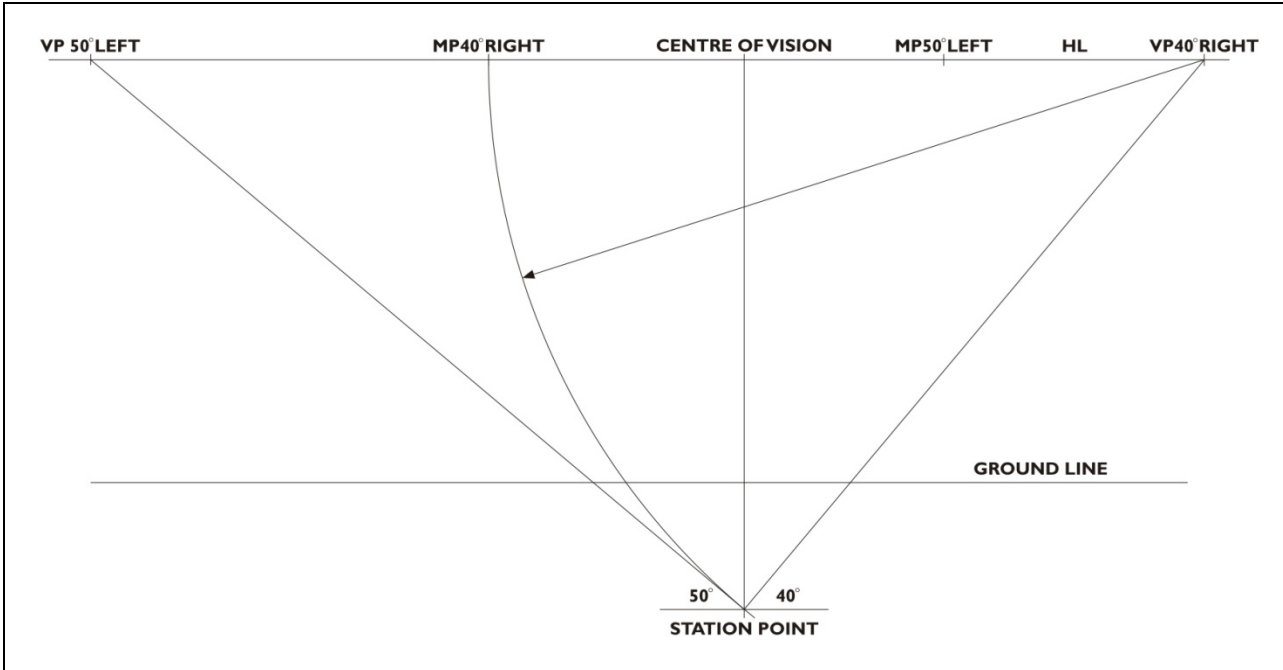

Figure 3.4 Two-point perspective establishing measuring-points
2. With the compass point on VP40° Left draw an arc from the Station Point up to the Horizon Line and mark this point MP 40° Left. Refer to Figure 3.4.